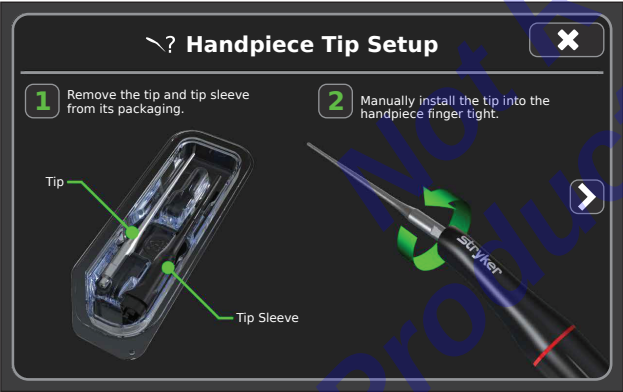

Figure 41 – Handpiece Tip Setup Screen
- 3. Touch the NEXT button or PREVIOUS button to navigate through the setup information (Figure 41).